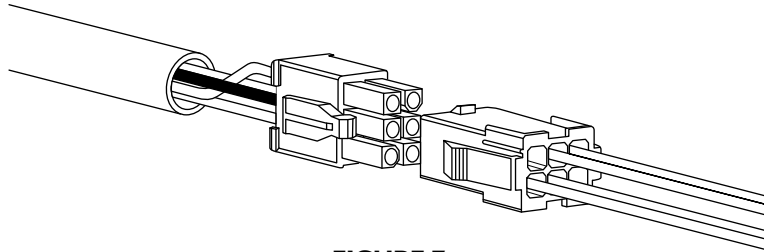

FIGURE 7
1. Remove the old connector from the power supply. **Figure 7.**